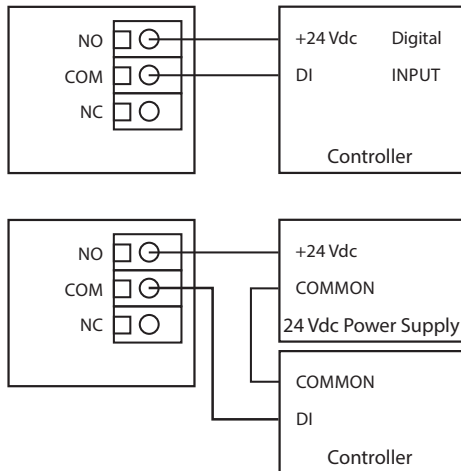

Figure 11
- The setpoint differential has 3 jumper selectable settings (Low/Mid/High). Set jumper to desired differential as shown in Figure 11.